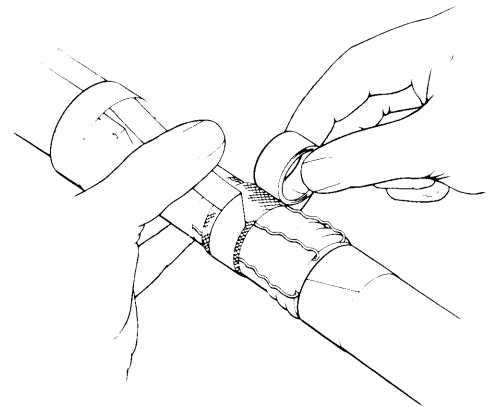

Figure 7
- d. Hold the coil and shield strap in place with thumb (Figure 7).